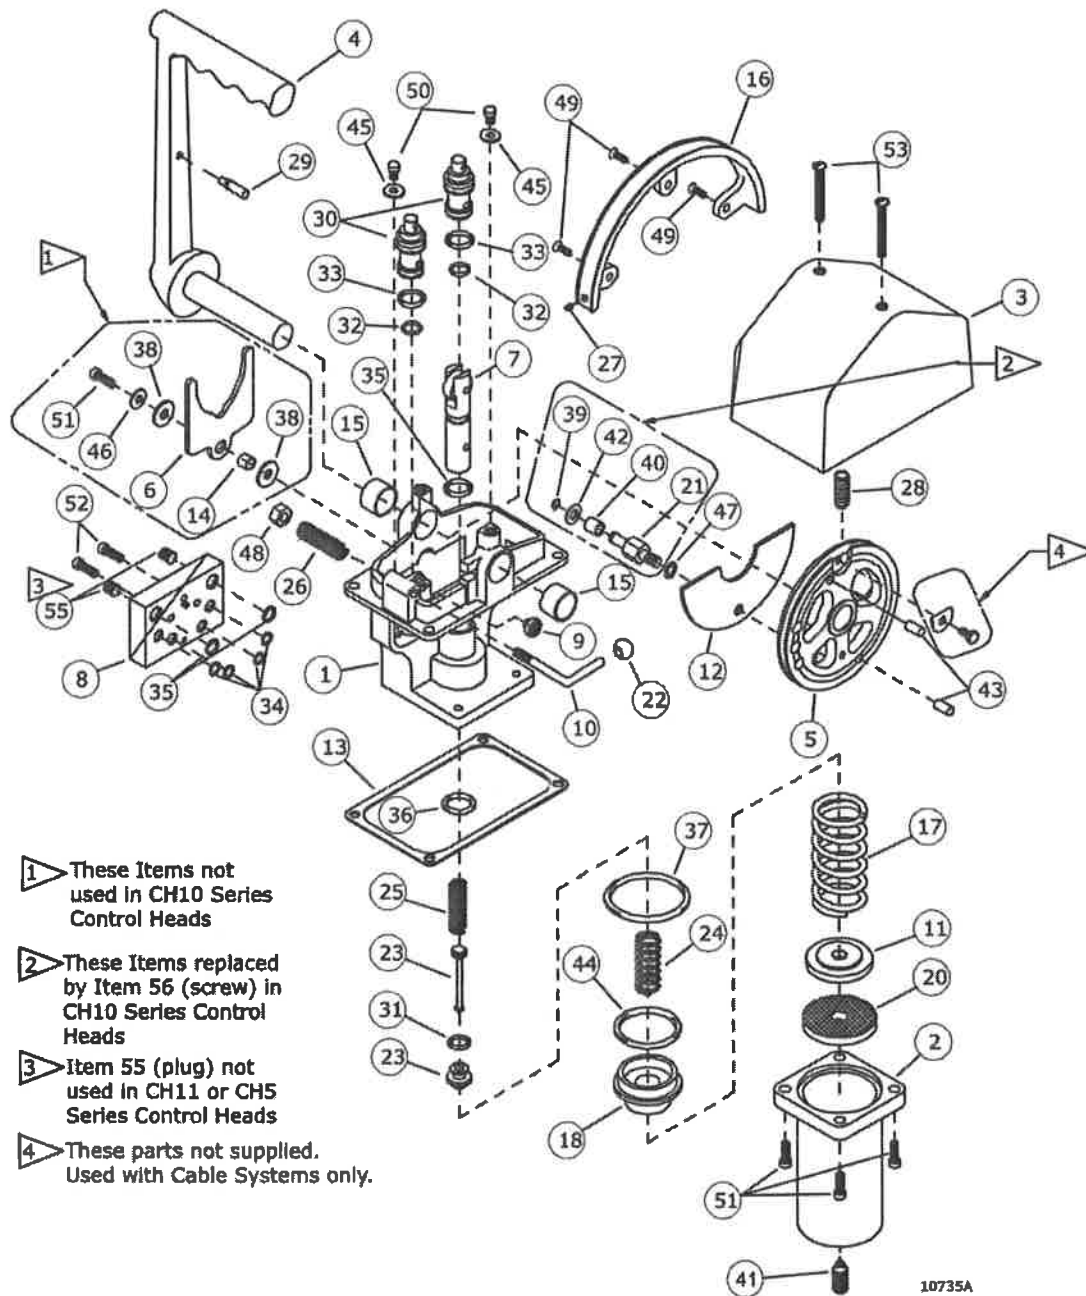

Figure B4-20-5: Exploded View
- Wash all metal parts in a non-flammable solvent. Rinse each part thoroughly and blow dry with a low pressure air jet. Assemble the parts on a clean surface, as shown in the exploded view (Figure B4-20-5:). Lubricate all rubber parts with MA92-0100 silicone lubricant, or equal (MA92-0100 is available from Northway Products Inc). Examine each part carefully. Visually check metal components for excessive scuffing or wear. Replace all rubber parts and any other parts that may not provide satisfactory service until the next scheduled maintenance period.